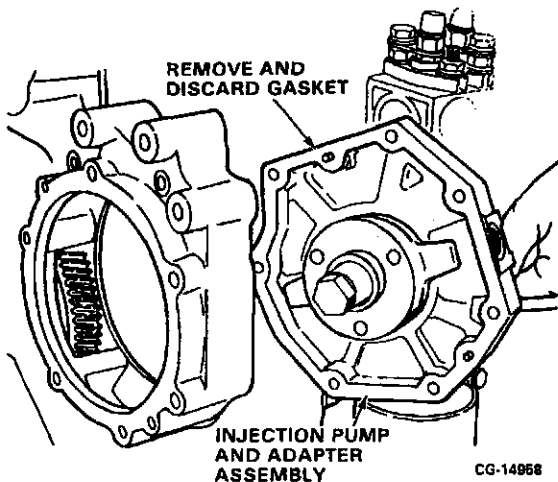

Figure 11.71. Remove Injection Pump Assembly
16. Remove the injection pump and mounting adapter as an assembly. Discard the gasket. Refer to Figure 11.71.